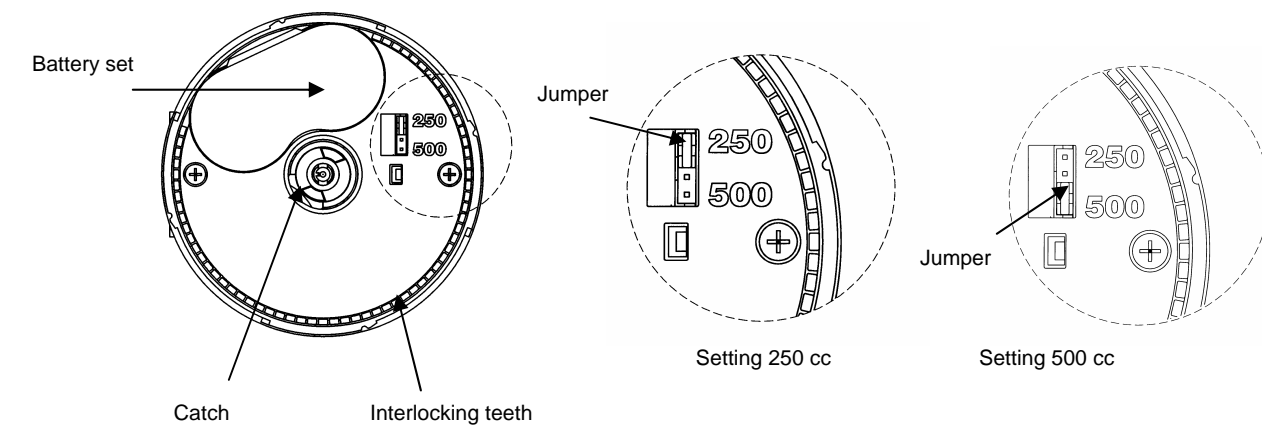
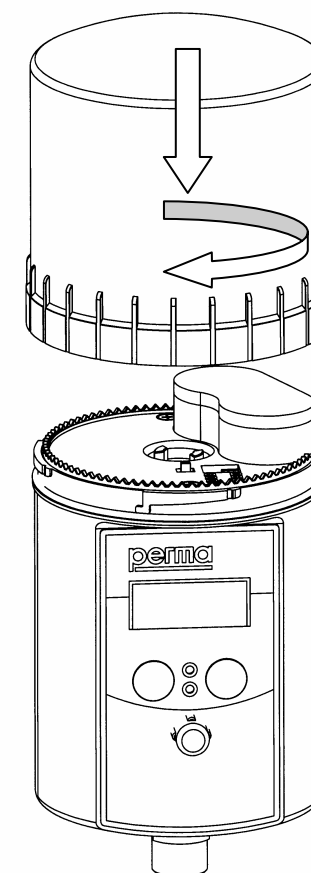

Figure 4
Figure 7
- ◆ Check the position of the jumper, which has to correspond to the size of the PRO LC-unit (refer to figure 4 and chapter 7.1).
- ◆ Place the PRO LC-unit with its protection cover on the drive-unit. Make sure that the catch locks and that the teeth of the PRO LC-unit and the drive unit interlock (refer to figure 4 and figure 7).